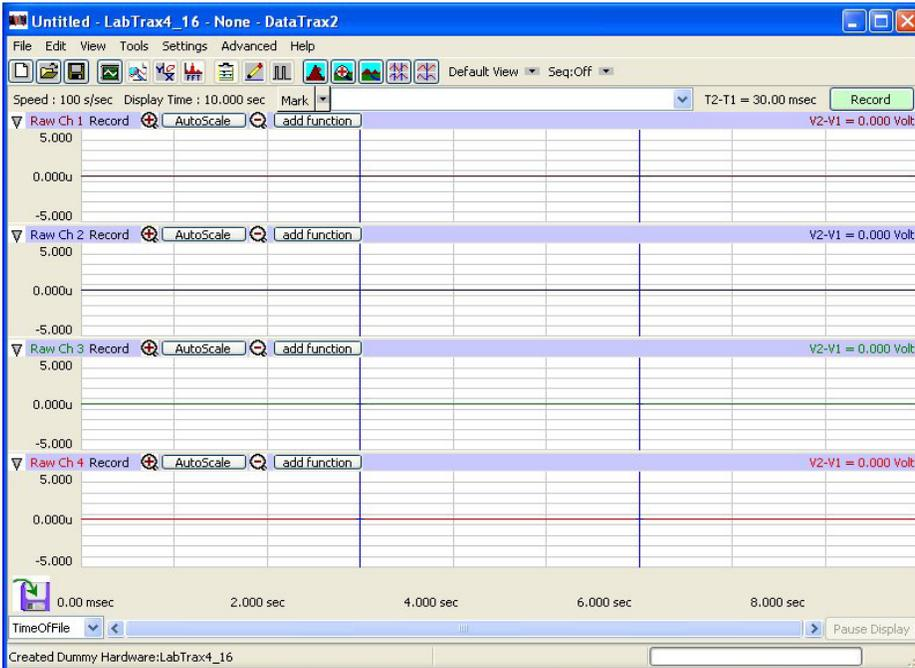

Fig. 34—Main LabScribe window
- An information box appears indicating the hardware that was found. For example, Fig. 32 shows a LabTrax 4_16, and Fig. 33 shows a WPI-118. The default LabScribe main window appears (Fig. 34).